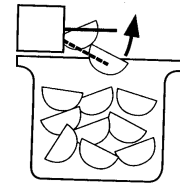

FIGURE 2
- THE ICE MAKING FUNCTION MAY BE TEMPORARILY STOPPED BY RAISING THE METAL ARM TO THE UPRIGHT POSITION. (SEE FIGURE 2)